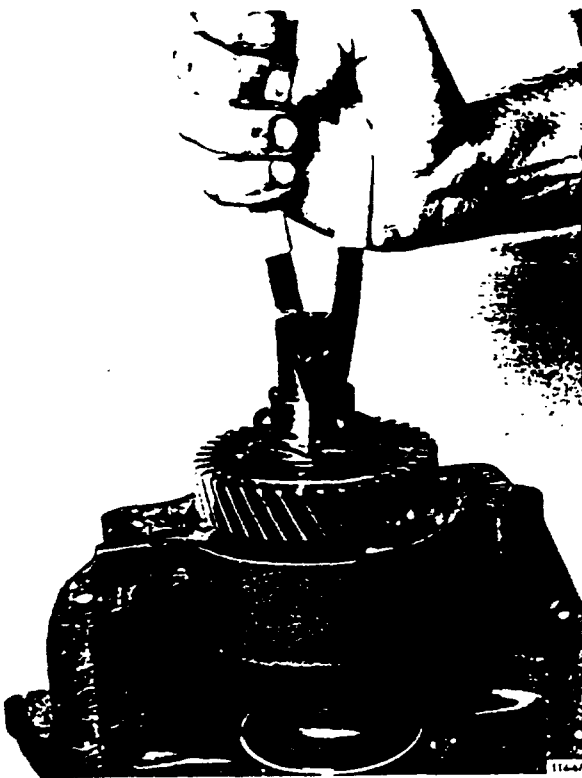

Figure 2-80. Installing Retaining Ring
13. Install auxiliary drive gear retaining ring. See Figure 2-80.